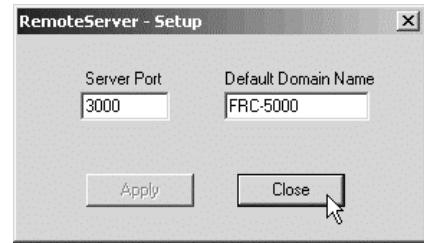

Figure 6.3. Setup Window for Configuring Port and Domain
- 2) Click **Setup** (Figure 6.2.) and the *Setup* window will appear (Figure 6.3)
- 3) Make changes to **ServerPort** and **Default Domain Name** if required. (Figure 6.3.)